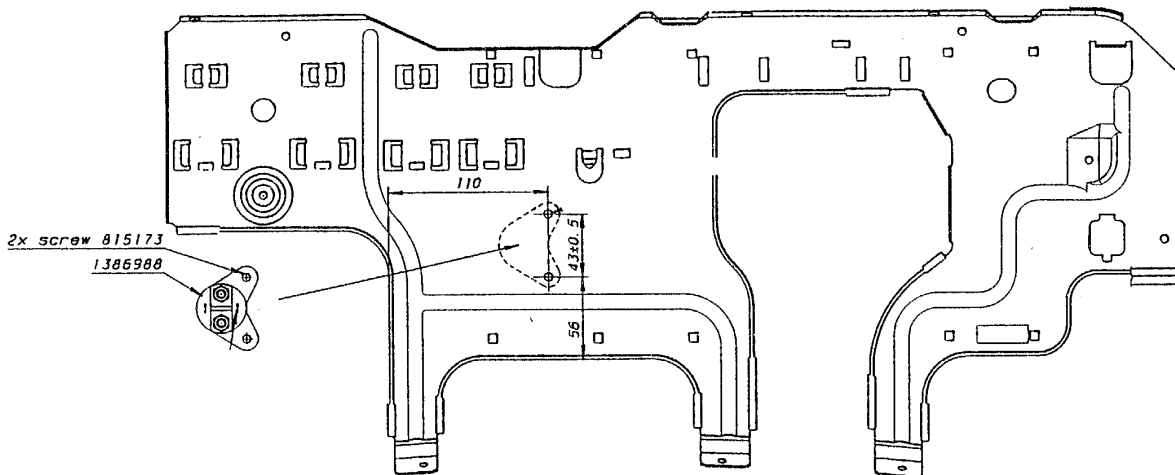

Fig. 1
2. Raise the central electric unit and undo the tie-wrap securing the instrumentation cable harness to release the plate (see fig. 1).
3. Drill two holes, diameter 4 mm, as in figure 1 and fit the relay.